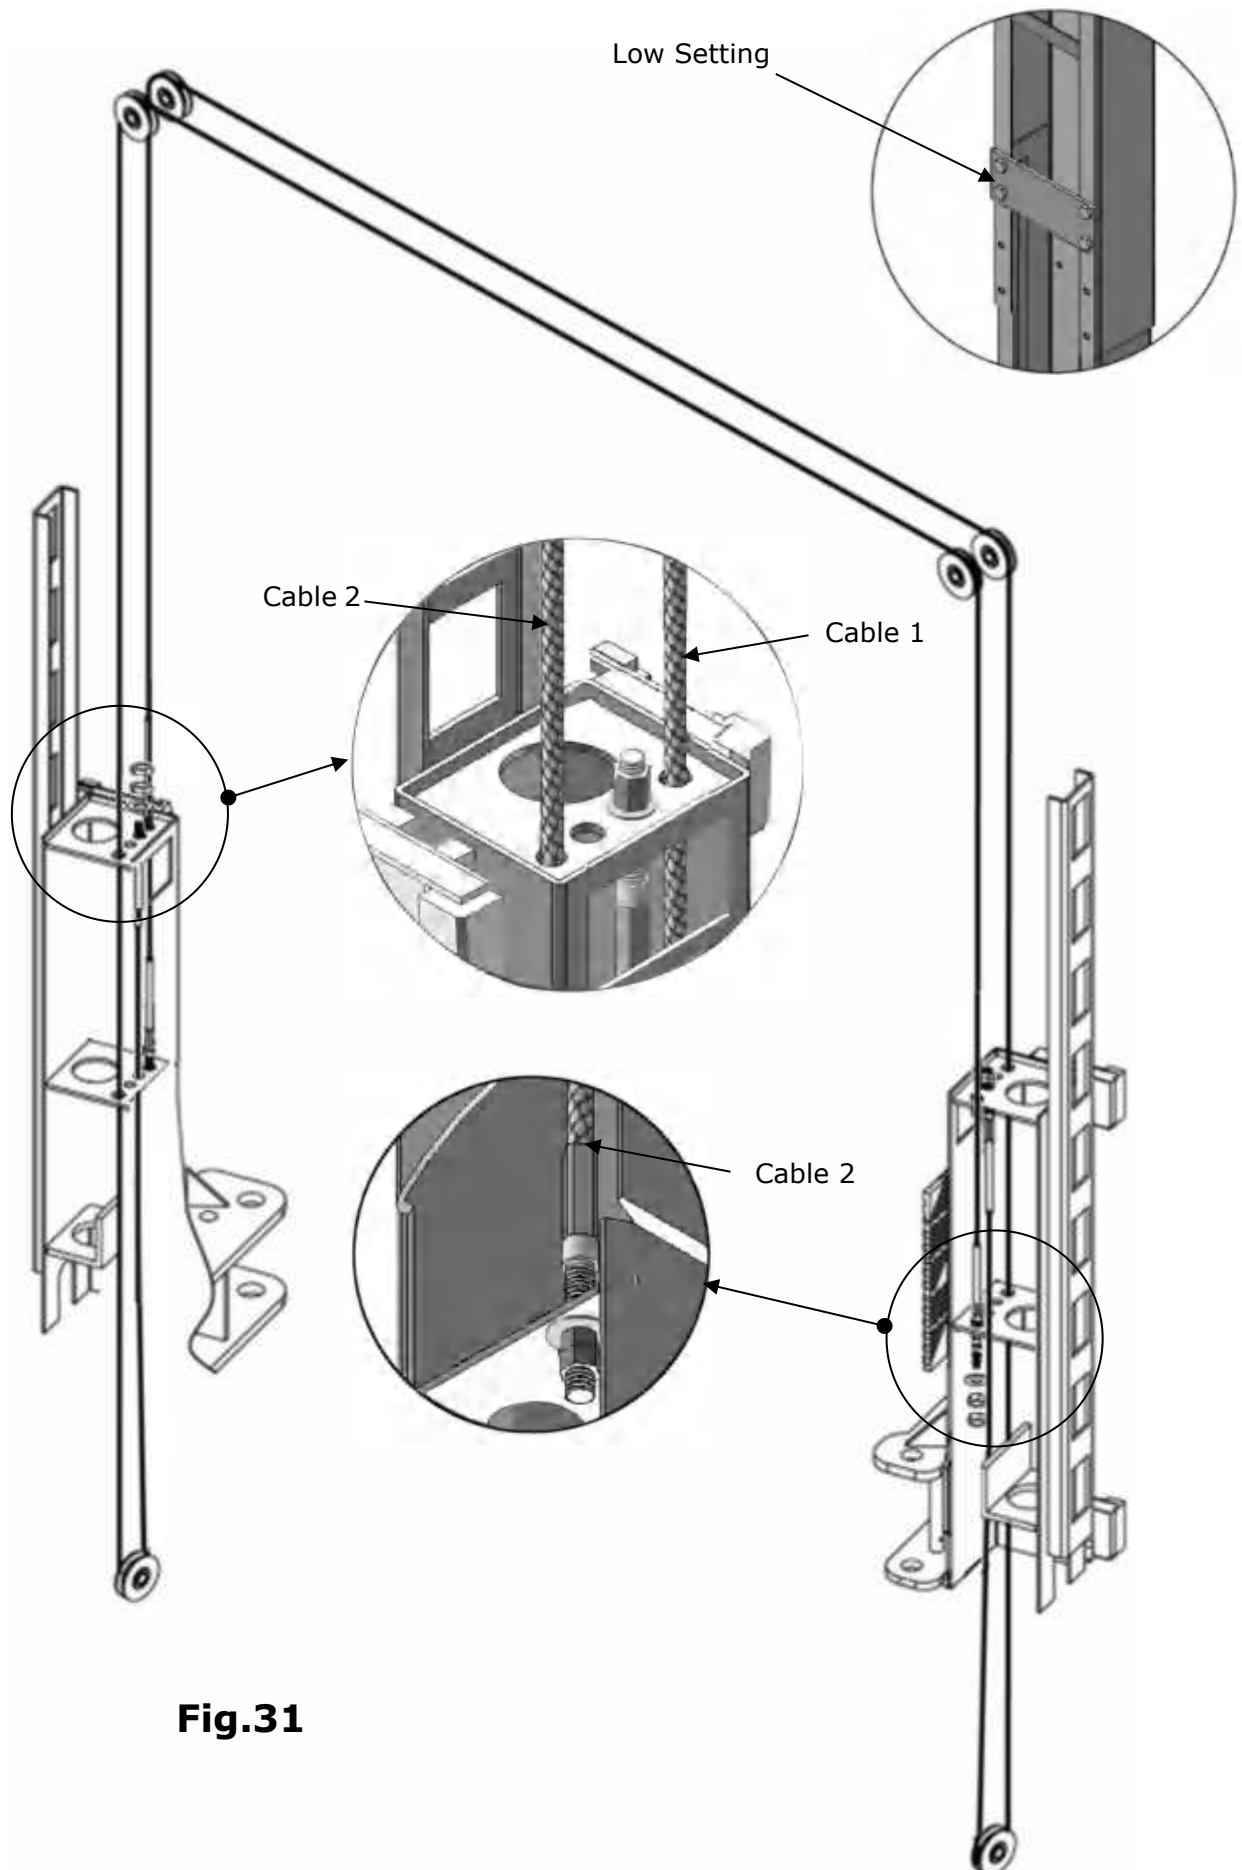

Fig.31
2. Low setting cable connection(See Fig. 31)